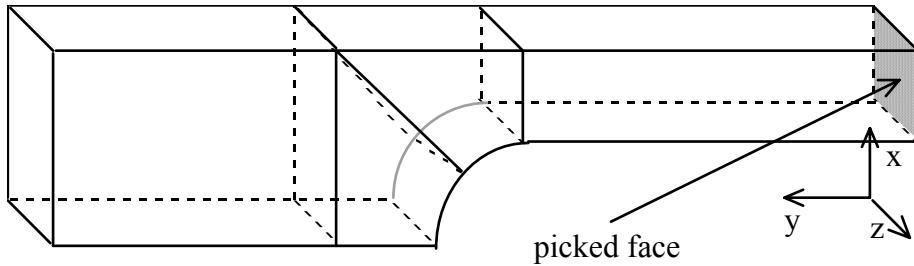

Figure 3.2 Face for applying fixed displacement boundary conditions.
Step 3: Select **Attach Boundary Condition** from the **BOUNDARY CONDITIONS** menu and then select **Face BCs** from the sub-menu. Select the *fixed* boundary condition from the list (it should be the only one available). Pick the face shown in Figure 3.2 by picking a point anywhere on the face, and select **FINISH**. Note that you must rotate the model such that this face is in front or use the cutting planes so that you can pick this face.